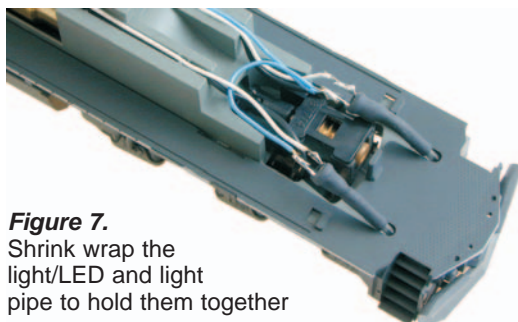

Figure 7. Shrink wrap the light/LED and light pipe to hold them together
4. Use a short piece of shrink wrap tubing to attach the LED to the cut end of the light pipe. Slide one end over the LED and the other end onto the light pipe to hold the two parts together. (*Figure 7*)